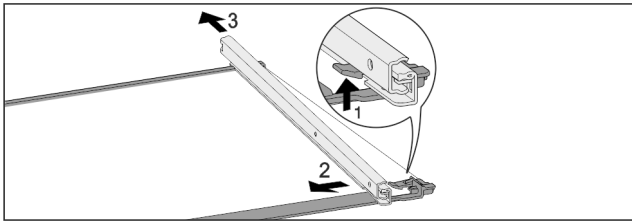

Fig. 125 Glass shelf with rails
- ▶ Push up front click-in hooks. Fig. 125 (1)
- ▶ Move the pull-out rails to the side Fig. 125 (2) and to the rear Fig. 125 (3).